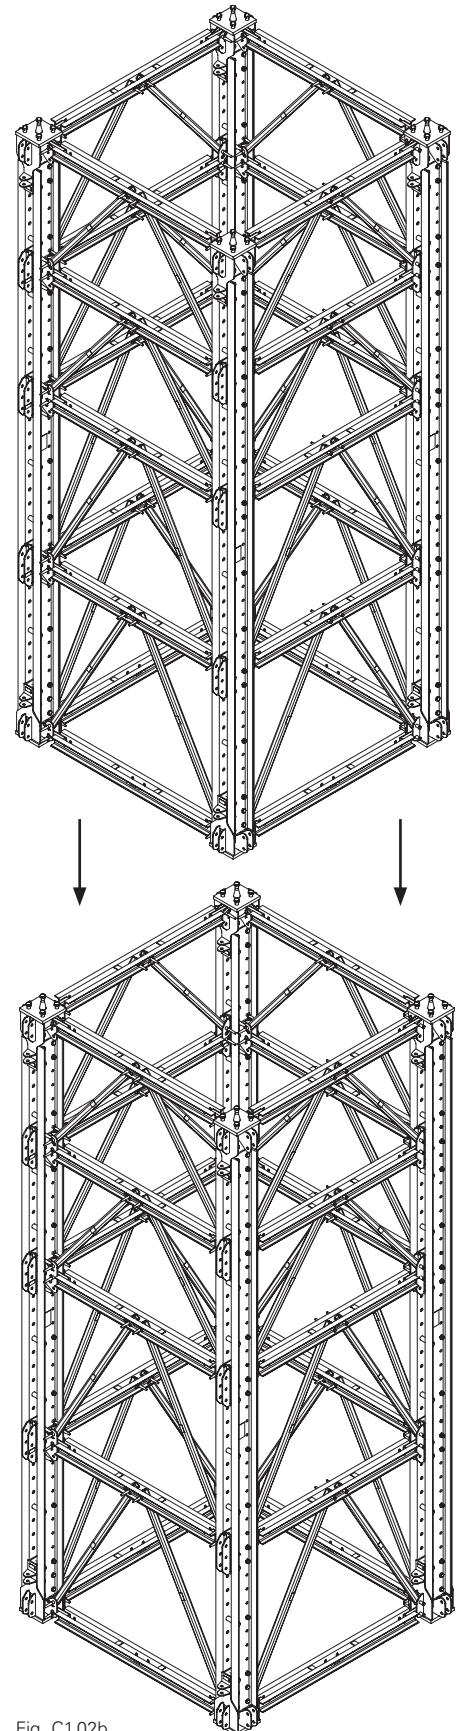

Fig. C1.02b
1. Place tower on existing tower. (Fig. C1.02b)
2. Connect the supporting elements on all legs using four bolts each from the individual prop connectors VST 48 (21).